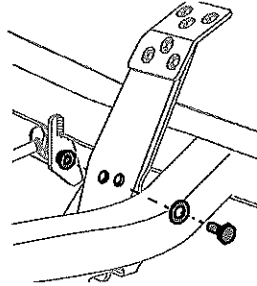

Figure 35
2. Remove the hex bolt, washer and hex nut near the center of the pedal assembly. See Figure 35.
4. Re-install the hardware previously removed and torque the nut to 28-35 ft-lbs (38-47 N-m). See Figure 35.